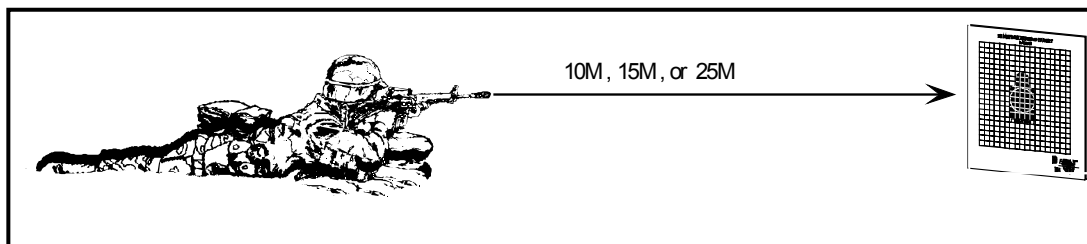

Figure C-1. Exercise 1.
Step 1. The soldier assumes a proper supported position using sandbags. The trainer inserts the MP-400/LTA-556C assembly in the rifle barrel and uses laser windage and elevation adjustments to achieve a bold sight adjustment with laser spot on front sight (Figure C-1, page C-4). With the laser in the ON position, soldiers should become familiar with both supported and unsupported firing positions.